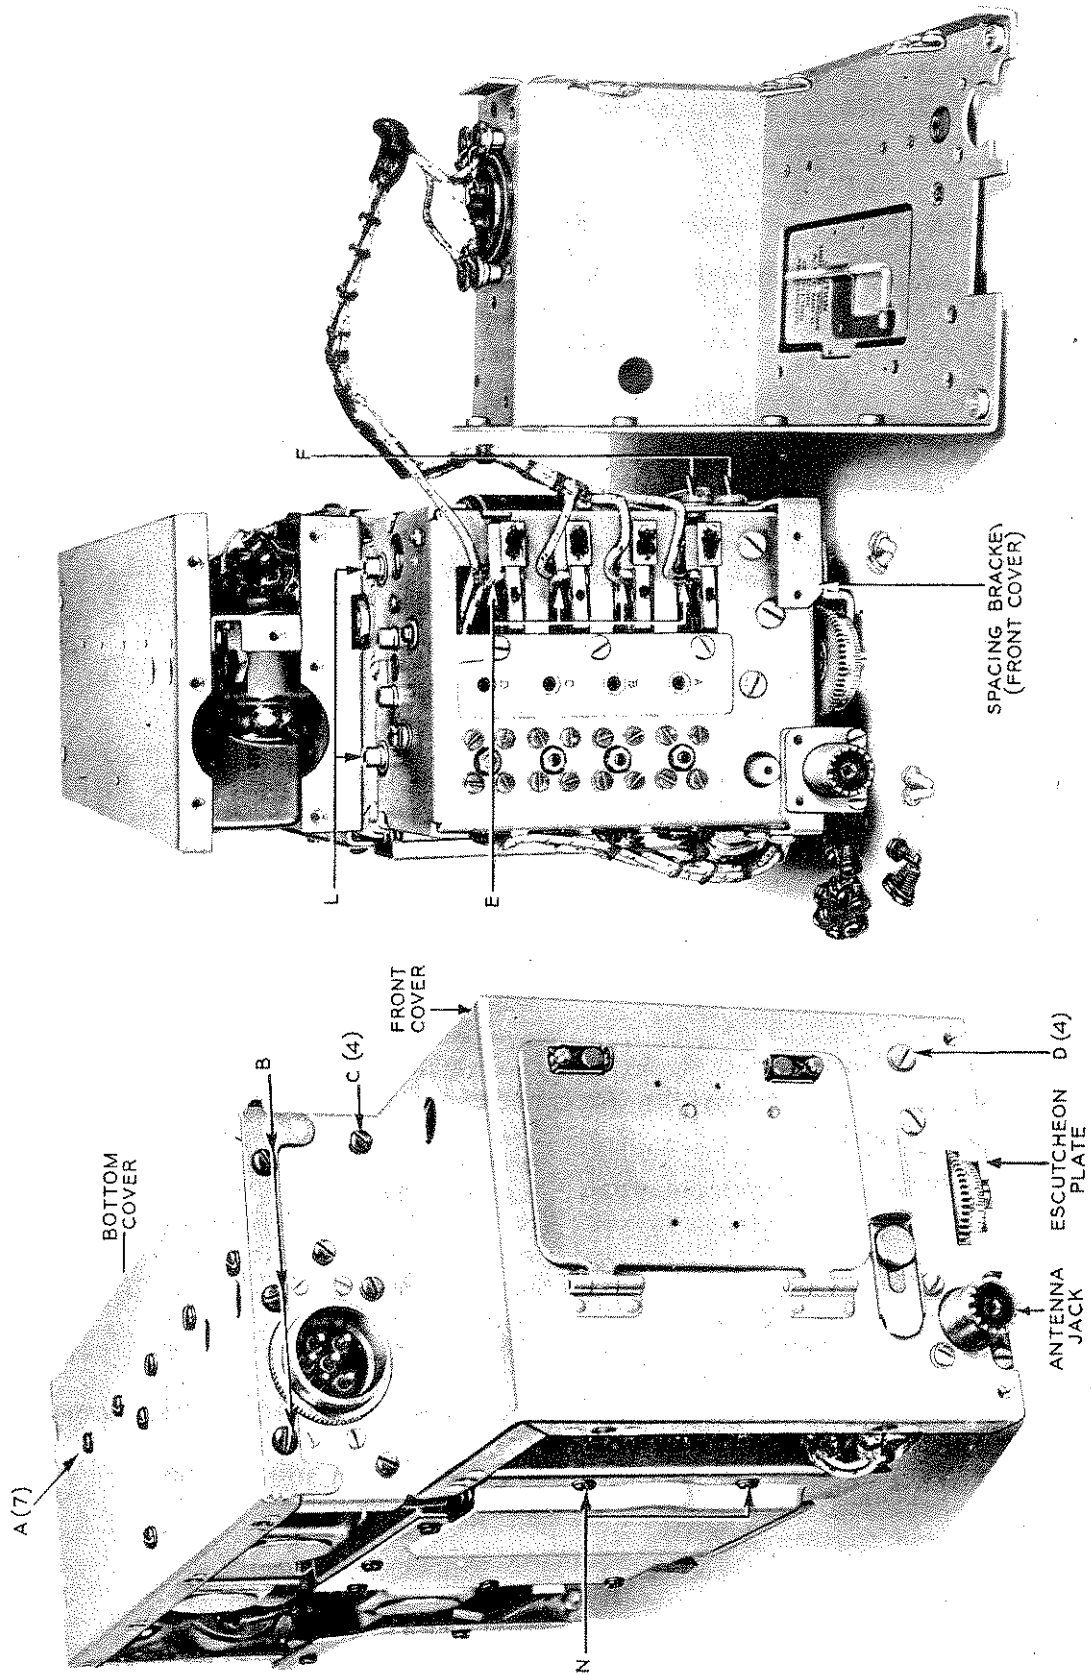
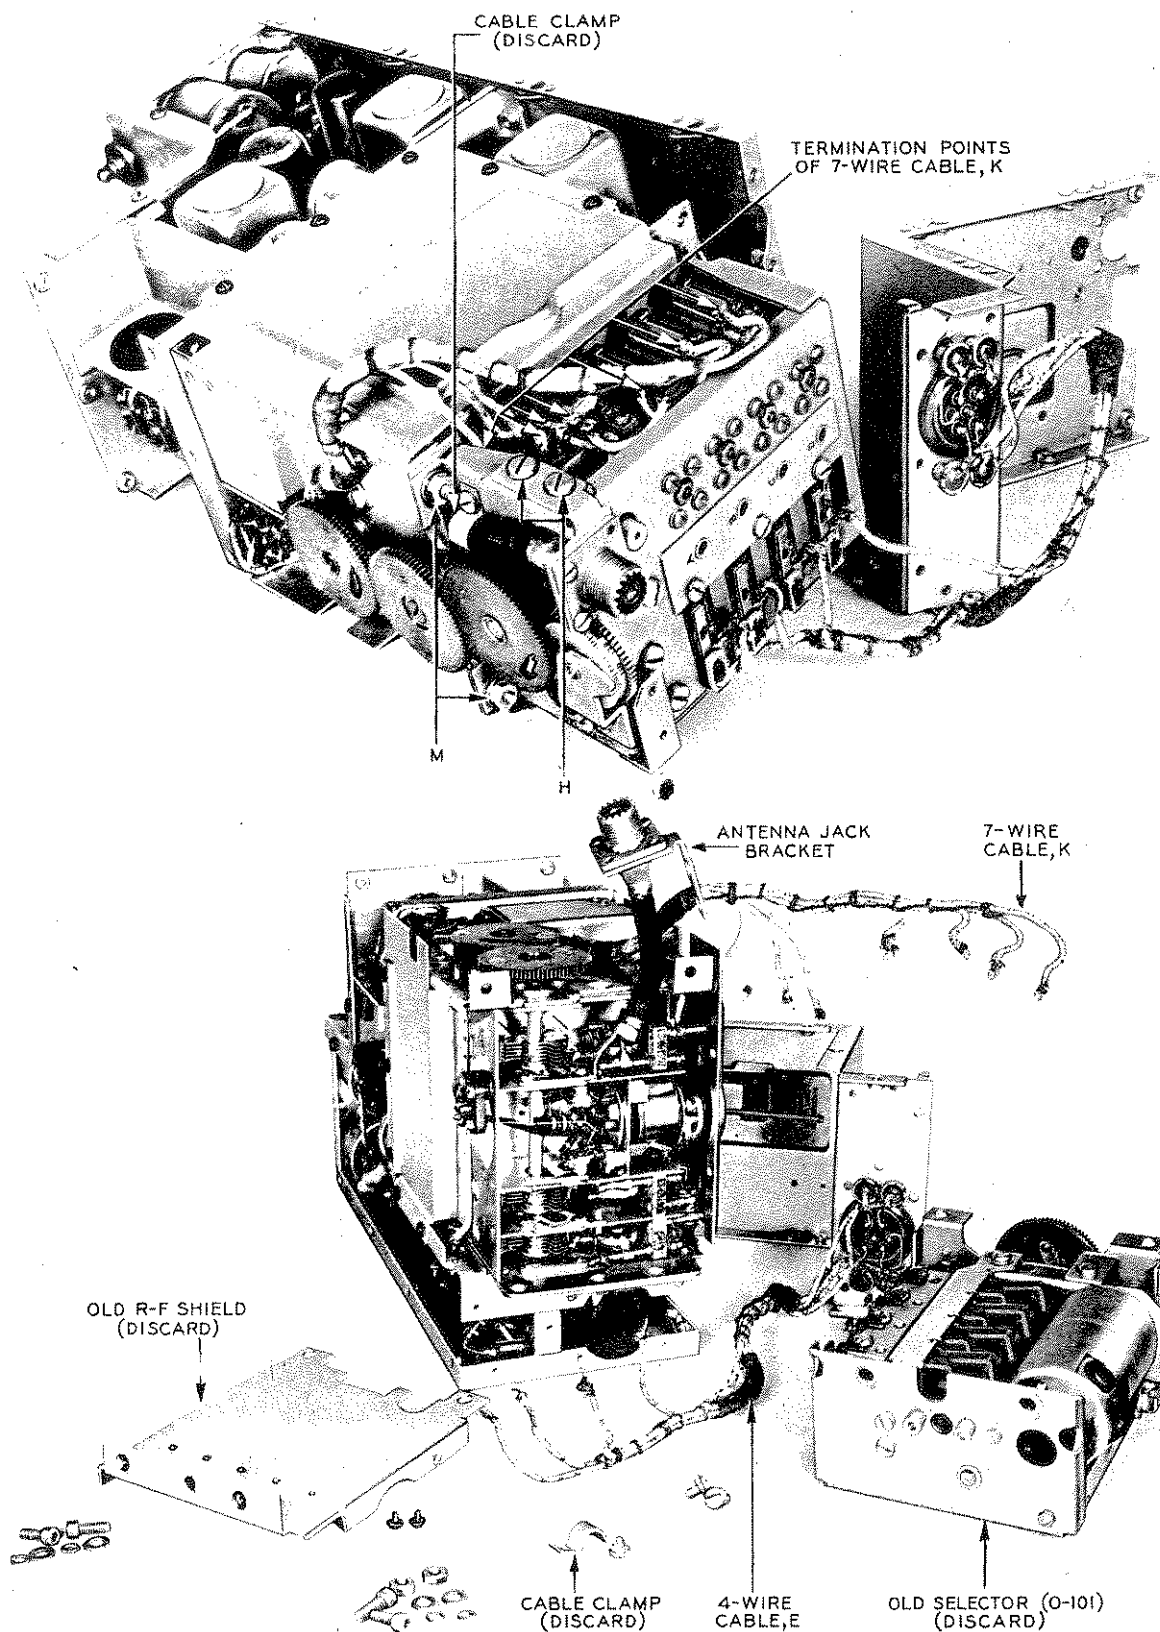

Figure 52—Replacement of Selector O-101
Figure 53—Replacement of Selector O-101 (continued)
- (1) Remove the top and side covers of the receiver.
- (2) Remove screws A and B (Figure 52) from the bottom and front of the bottom cover plate. This will allow the front end of the bottom plate to pivot about the rear of the receiver.
- (3) Remove screws C (Figure 52) from the lower part of the front cover and screws D near the top of the front cover. Remove the dial escutcheon plate.
- (4) Slide the front cover forward to clear the antenna jack. Remove the cover and cut the four wires, E, connected to the contact springs of the 0-101 selector. These wires should be cut as close as possible to the spring terminals.
- (5) Remove screws F (Figure 52) and the front cover bracket.
- (6) Remove screws H (Figure 53) and the cable clamp. Discard the clamp. Bend the antenna jack, cable and bracket upward to clear the selector.
- (7) Cut the seven wires, K, as close as possible to their terminating point (Figure 53) and swing the cable up out of the way.
- (8) Remove the No. 8 socket head screws L (Figure 52) and M (Figure 53). Remove the old selector unit.
- (9) Remove screws N (Figure 52), releasing the r-f shield between the selector unit and the r-f unit of the receiver. Replace with the new r-f shield which is supplied with the new selector.
- (10) Hold the new selector in position and replace the two socket head screws, L, at the bottom. Do not turn these screws up all the way; make finger-tight only. The gears should be so meshed that when the two tuning capacitor gears are meshed at the teeth marked "L-L," the frequency indicator dial is lined up with its high-frequency mark (to the right of the 156 mc mark) in line with the index line. Also, when the tuning capacitor gears are meshed at the "H-H" marks, the frequency scale should be at its lowest setting.
- (11) Before the two socket head screws, M, at the top of the selector are replaced, care must be taken to
- (12) Replace socket head screws M and check for proper mesh of gears. There should be visible play in the mesh; this can be checked by rotating the solid gear of the r-f tuning capacitor shaft while the selector is locked on one of its channel positions. If noticeable play is absent, shims should be placed at M between the selector and the r-f unit shield. If the gear mesh is too loose (less than 50 per cent of tooth engagement), then screws M should be loosened slightly and the top of the selector moved slightly to the left, as viewed from the front, until proper gear mesh is obtained.
- (13) Replace the antenna jack and cable and secure with the two screws, H, at the side of the selector.
- (14) Replace the front cover bracket and secure with screws F.
- (15) Unlace seven-wire cable K; reform and tape as shown in Figures 53 and 54. Solder wires to the proper terminals as shown in the wiring diagram of Figure 70. The terminals of terminal strip E-250 are numbered consecutively from bottom (terminal 1) to top (terminal 13).
- (17) Replace the front cover mounting bracket and the antenna jack bracket. Leave the mounting screws for these slightly loose.
- (18) Replace the front cover and secure the seven screws, B and C (Figure 52). Replace the seven screws, A, which secure the bottom cover plate.
- (19) Replace dial escutcheon plate and four screws D.
- (20) Replace and secure the top cover of the receiver.
- (21) Tighten the screws which secure the front cover bracket and the antenna jack bracket.
- (22) Replace the side covers.